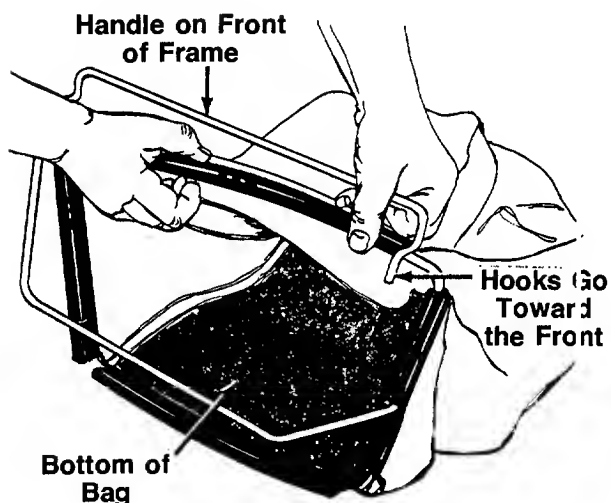

FIGURE 11.
1. Place bag over frame (black plastic side is the bottom of bag). Handle on frame goes to the top of bag. Hooks go toward the front. See figure 11.
2. Secure bag to frame by slipping plastic channels on bag over frame. See figure 11.